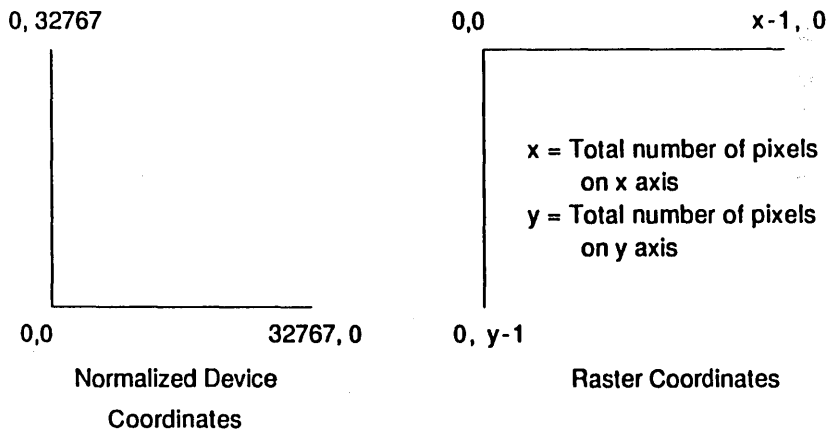

Figure 1-1. Normalized Device Versus Raster Coordinates
Raster Coordinates (RC) are actual device units (for example, pixels for screens and steps for plotters and printers). Unlike the NDC system, RC system coordinates begin in the upper left corner; the lower right corner (xmax,ymax) addresses the bottom right pixel of the space. Figure 1-1 shows a comparison of the NDC and RC systems.